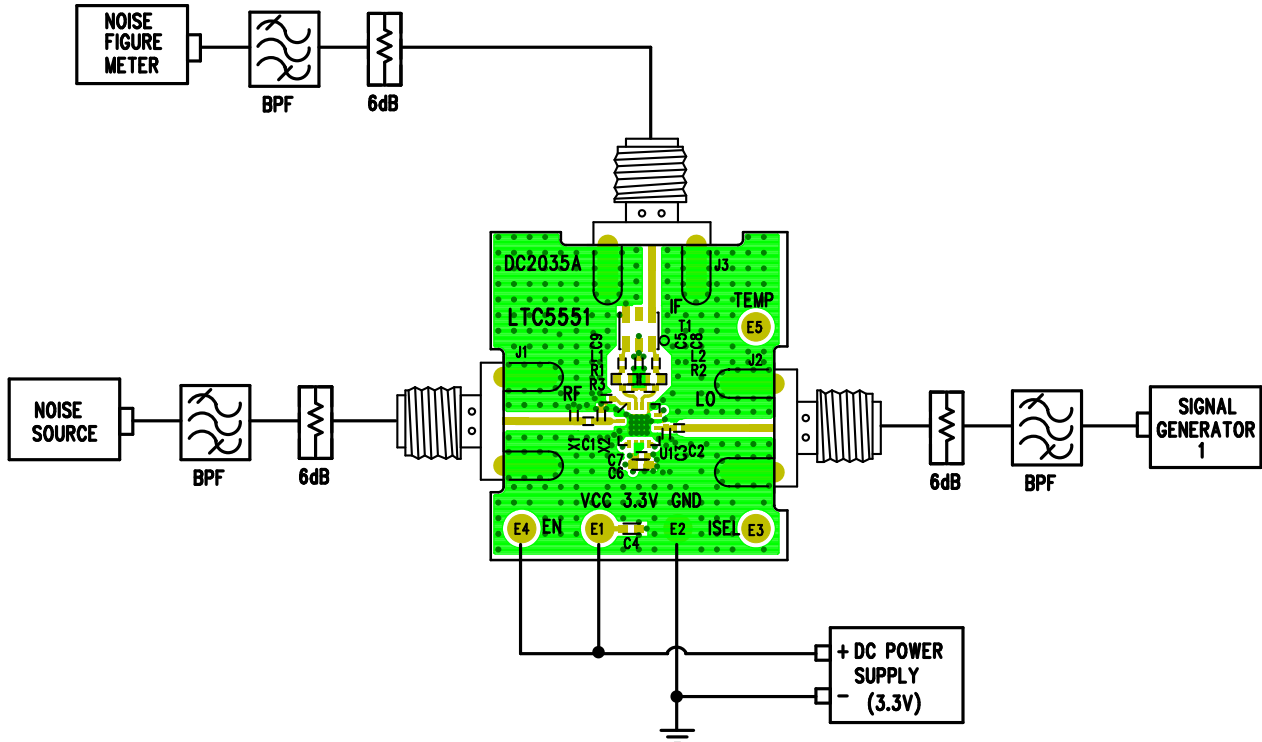

Figure 3. Equipment Setup for SSB Noise Figure Measurements
2. Connect all test equipment as shown in Figure 3 with signal generator and DC power supply turned off.